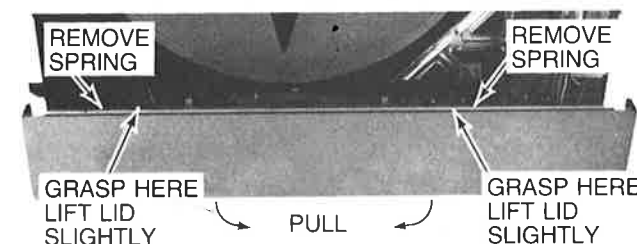

Fig. 9—Door Push Rod Spring
1. With cabinet top removed and player in "Play" mode—remove AC cord from power source. Use needle nose pliers and carefully remove door push rod spring from front receiver pad (left and right sides) Fig. 9.